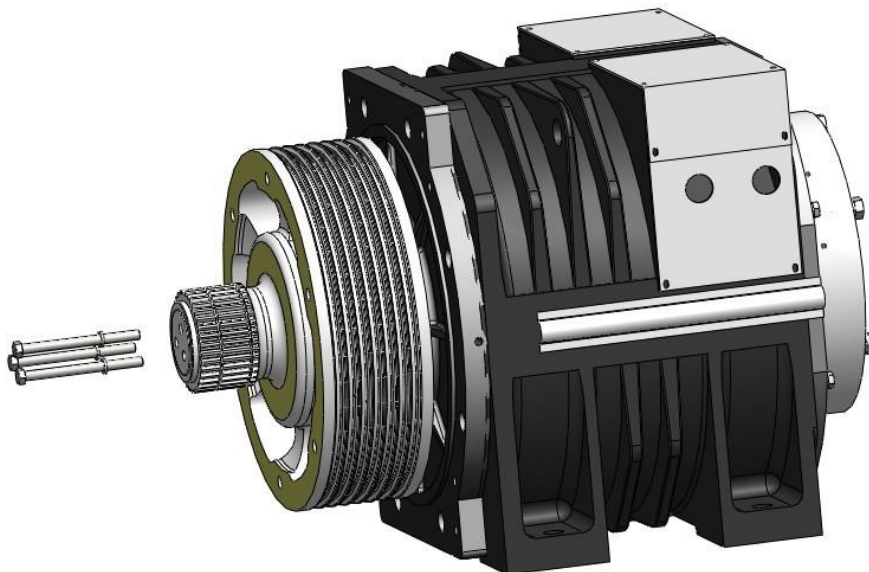

Figure 56: Shaft Cover removal
3. Remove the 3 bolts M12x150 and lock washer12 (3 pieces), remove the shaft cover. See Figure 56.